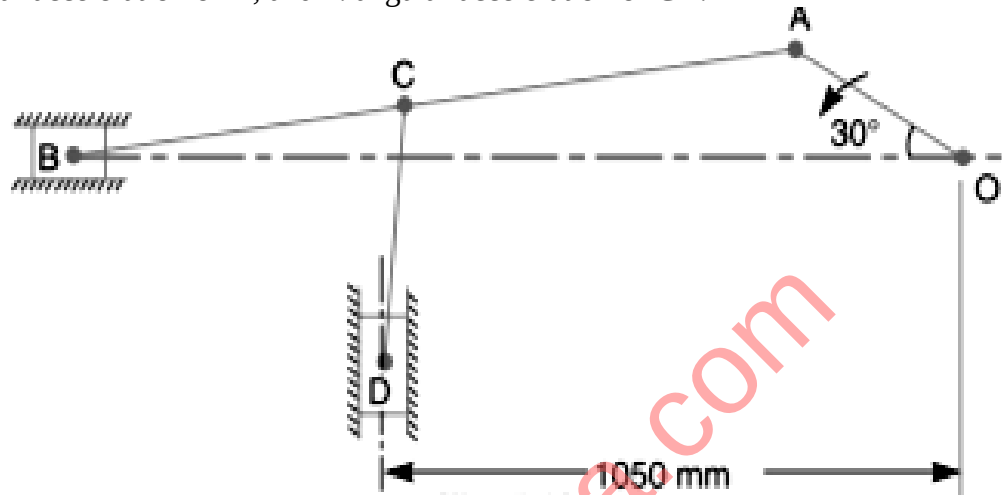

Figure 4
- (b) In the mechanism, as shown in Fig. 4, the crank OA rotates at 20 r.p.m. anticlockwise and gives motion to the sliding blocks B and D. The dimensions of the various links are OA = 300 mm; AB = 1200 mm; BC = 450 mm and CD = 450 mm. For the given configuration, determine: 1. velocities of sliding at B and D, 2. Angular velocity of CD, 3. linear acceleration of D, and 4. angular acceleration of CD. 10